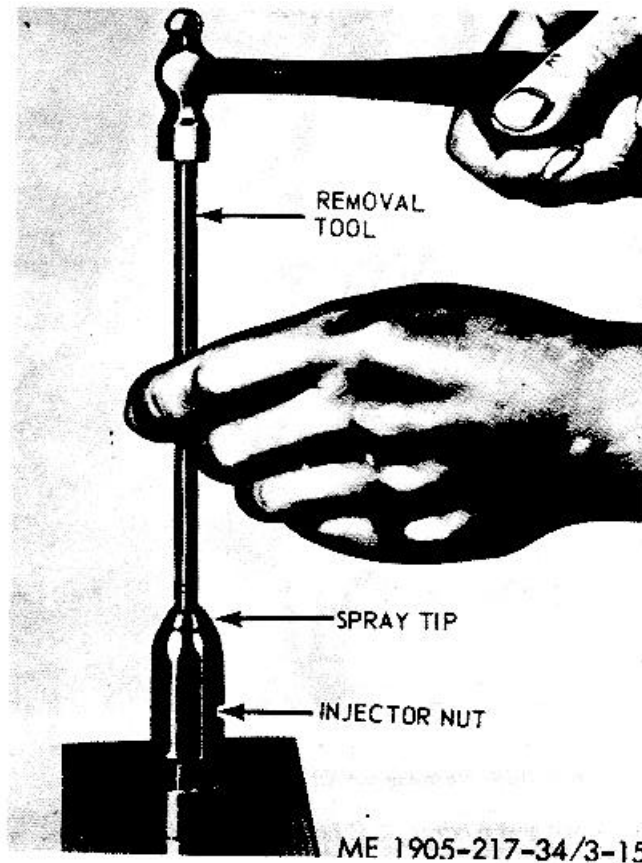

Figure 3-15. Removing spray tip from fuel injector nut.
(5) Lift the injector nut straight up by hand, being careful not to dislodge the spray tip and valve parts off bushing and place in a clean receptacle.
(6) If the spray tip can not be pushed from the nut with the fingers remove as shown in figure 3-15.